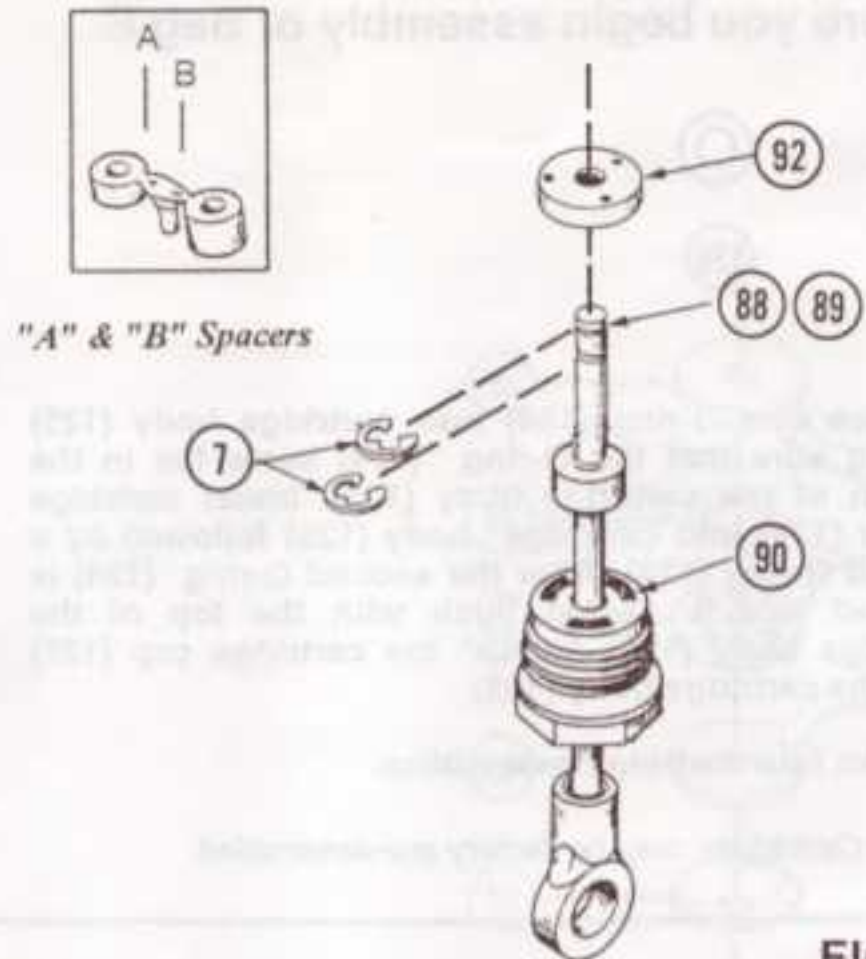

FIG. 40
3. Slide the shock spacer marked "B" (the larger of the two spacers) over the shock shafts [Front (88), Rear (89)].
4. Install a 1/8" E-clip (7) into the groove closest to the shock cartridge. Fig. 40.
5. Clean sprue off of piston (92) and slide piston (92) onto shaft (88), (89) until it rests against the E-clip (7).
6. Secure piston (92) with another 1/8" E-clip (7). Fig. 40.